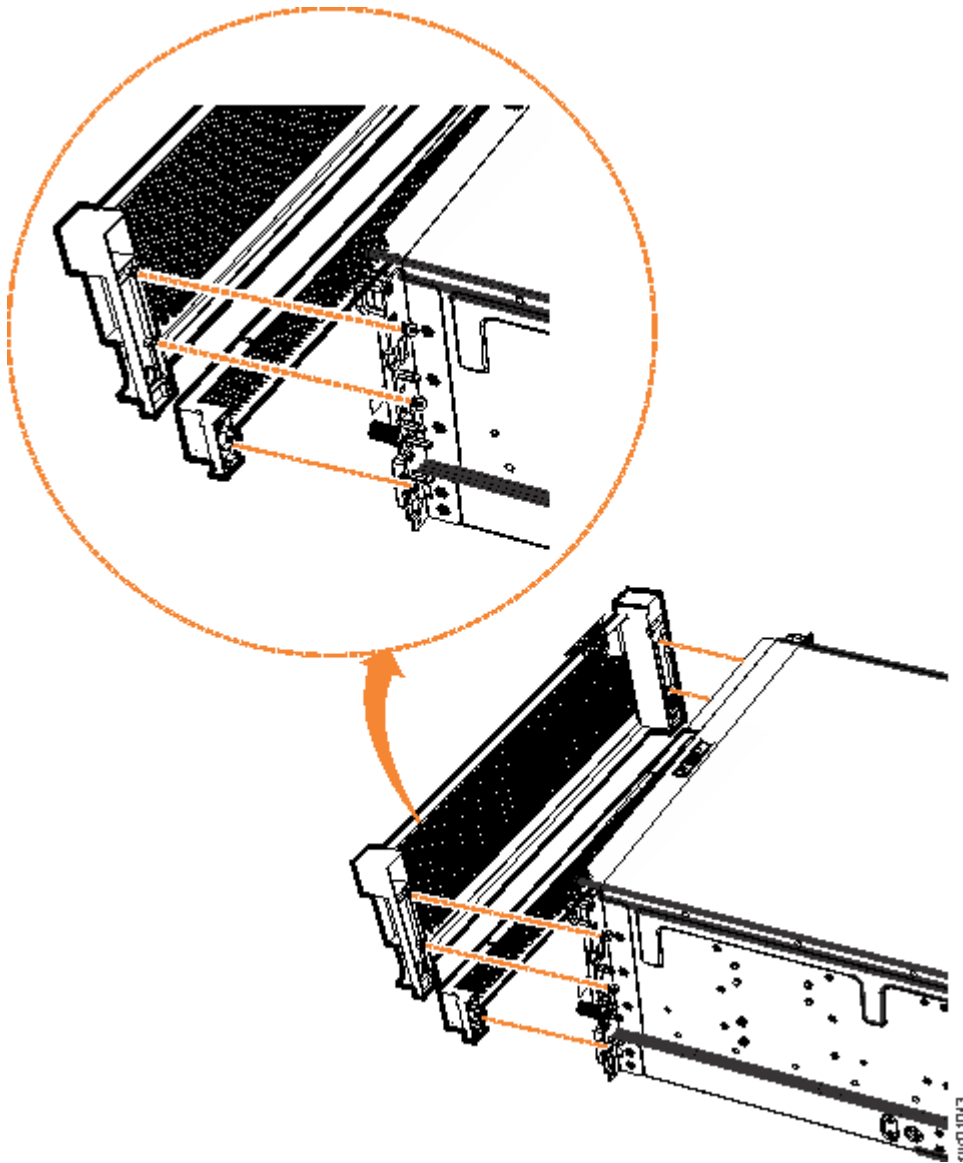

Figure 140. Remove fascia components from the expansion enclosure
2. Remove the front fascia by removing the two screws that attach the fascia to the flange on each side of the chassis, as shown in Figure 140 on page 191.
3. Gently pull on each side of the PSU fascia to remove it from the chassis, as shown in Figure 140 on page 191. The PSU fascia disengages from the slot and pin that connect it to each side of the chassis.